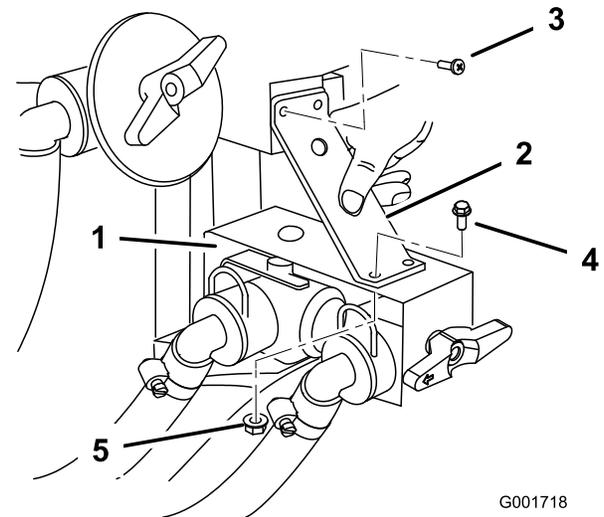

Figure 11
8. Install the support bracket over the control valve bracket. Use the two existing screws securing the upper tee assembly to secure upper portion of the support bracket (Figure 11). Secure the lower